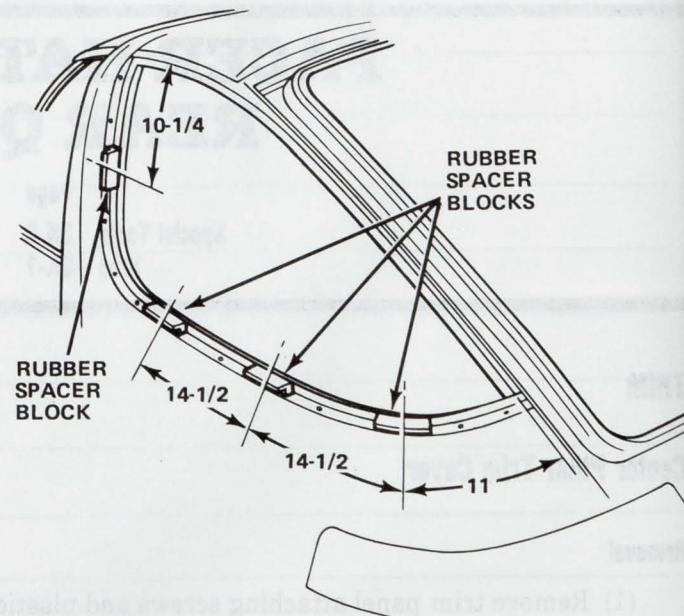

Fig. 3K-2 Installation of Rubber Spacer Blocks—Pacer (inches)
- (1) Correct any moulding or metal-to-glass defects.
- (2) Check reveal moulding clips for proper position or replace, if broken.
- (3) Position rubber spacer blocks as shown in figure 3K-2.